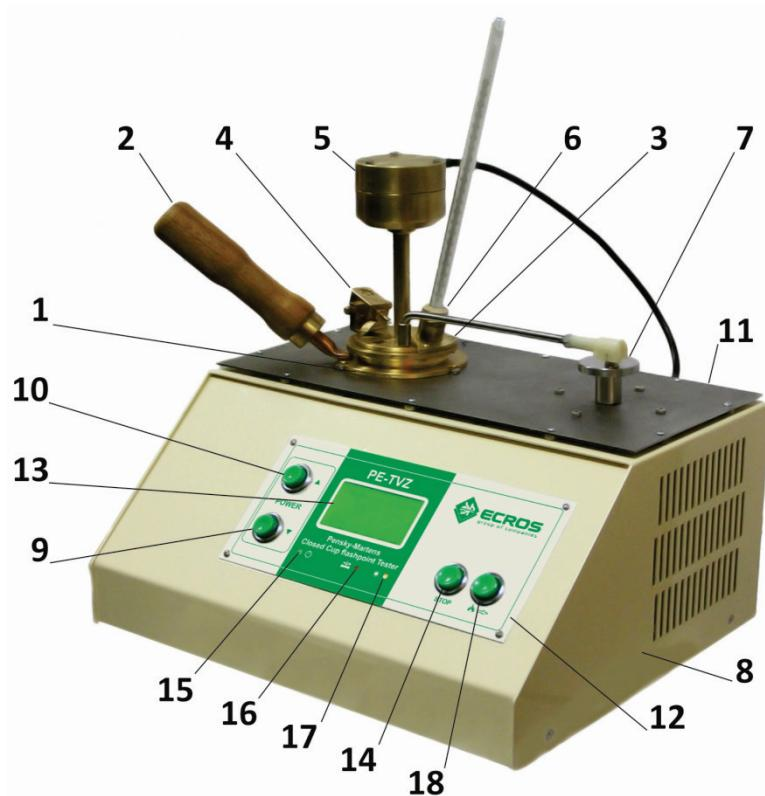

Figure 1
- 4.1. The tester PE-TVZ (Figure 1) consists of:
- test cup (1), with cup handle (2);
- cover (3) with igniter (4) and stirring device (5);
- opening for measuring thermometer (6);
- cover rotation device (7);
- the tester body with electric fan (8);
- electric heater (inside of the instrument) with manual control of heating power (buttons 9 and 10), and switch on rear wall of the instrument (11);
- face panel (12), where following is located: liquid-crystal display (13) and control buttons: POWER (9, 10), STOP (14) – reset, (18) – lowering of burning igniter, and indicators of power supply (15), stirrer operation (16) and electric heater operation (17).